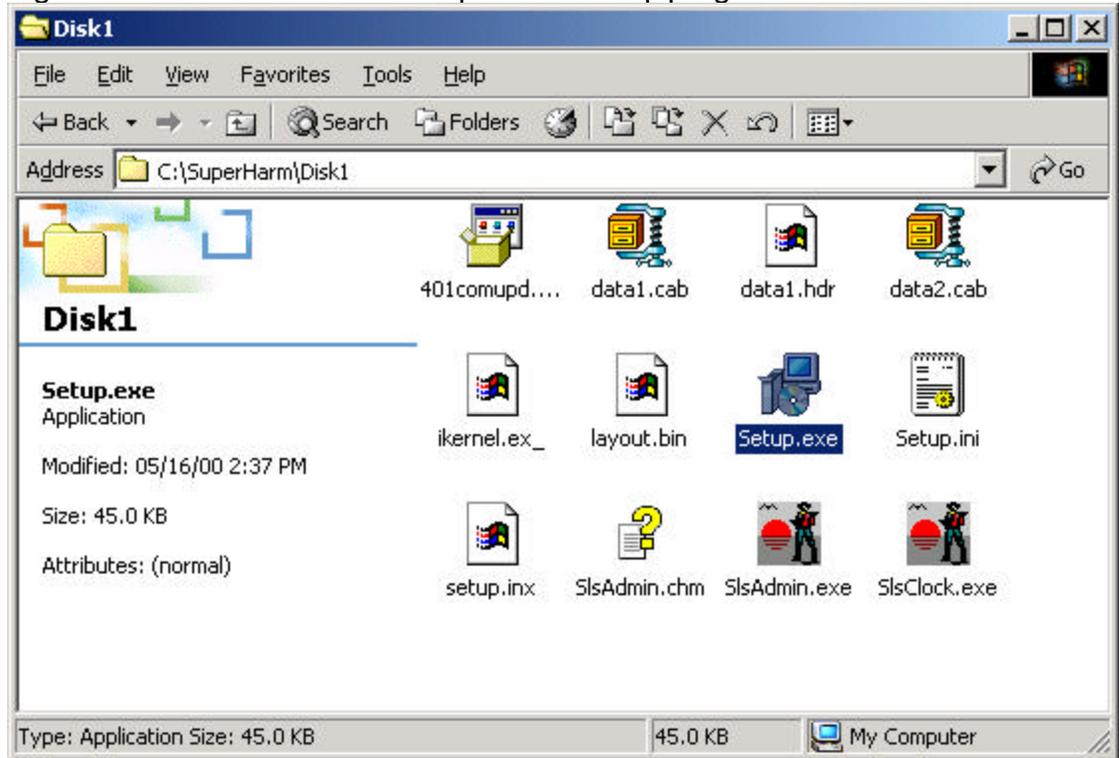
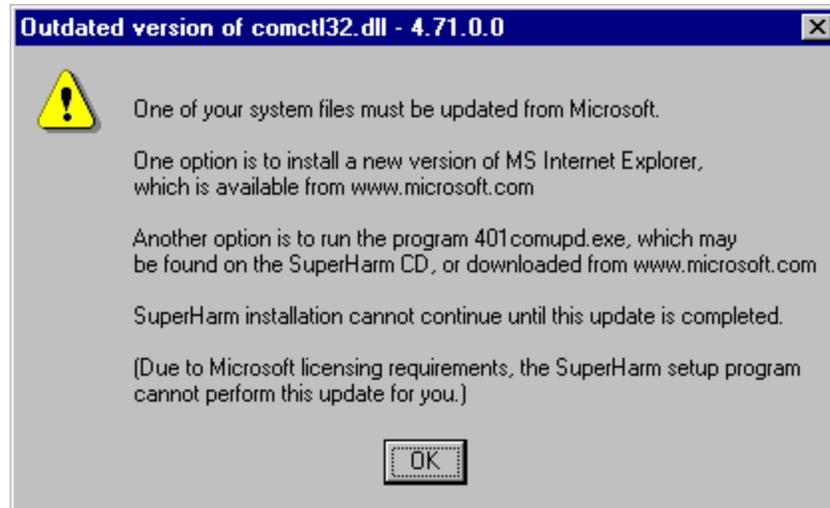
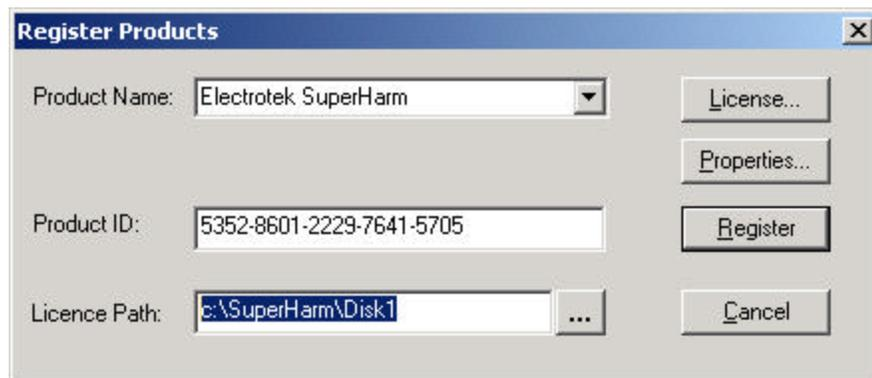

Figure i- 1: Setup.exe file
Figure i- 2: : Message for required comctl32.dll update
Figure i- 17: Entering a Product ID and License Path on the License Server
To begin the installation, select and double-click the **Setup.exe** file shown in Figure i- 1. This launches the SuperHarm setup program.
You may see a message like Figure i-2, if one of your system files must be updated before installing SuperHarm. If you see this message, select and double-click the **401comupd.exe** program that also appears in Figure i- 1. After completing the update, try to run **Setup.exe** again.
Figure i- 1 shows a directory set up this way. To produce a similar configuration for your network:
- Double-click on **SlsAdmin.exe** in Figure i-1 to start the License Administration program.
- Choose **Licence, Registry** from the menu to obtain the dialog in Figure i- 17. Enter "Electrotek SuperHarm" for the Product Name and "5352-8601-2229-7641-5705" for the Product ID.
- Enter the Licence Path using local drive letters. For the UNC share \\SuperHarm\\Disk1 in Figure i- 1, the local path on the license server is "c:\\SuperHarm\\Disk1" as entered in Figure i- 17.
- Double-click on **SlsClock.exe** in Figure i-1 to start the Sheriff system clock utility. You should probably add a shortcut to this program under the Startup program folder on the license server so that it always runs. If the clock utility is not running on the license server, Sheriff will use the system time from the last computer that accessed the license database. If system times on the network computers are off by more than a few minutes, which is often the case, the license might be dropped on the computer with the "slowest" system clock.
- The Licence Path edit field probably shows the directory where SuperHarm was installed, which contains the 14-day trial license. Replace this with a UNC or mapped drive letter path to the license files, \\SuperHarm\\Disk1 in Figure i-17.